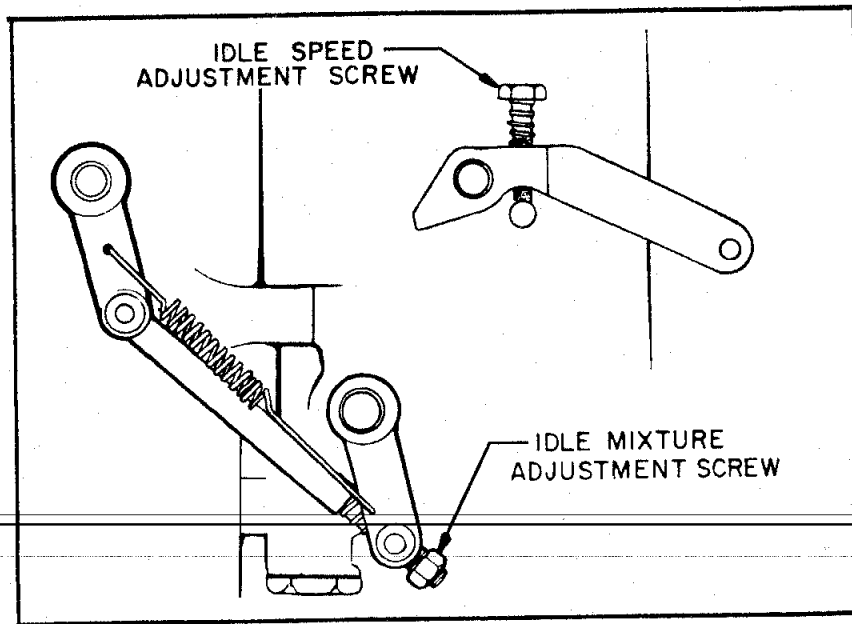

FIG. 26. IDLE ADJUSTMENT POINTS FOR IO-520-A, F, J, K & L.
k. The idle speed is controlled by a spring-loaded screw located in the air throttle lever. (See Figure 26, 27.) Set to values specified in aircraft handbook by turning in to increase and out to decrease idle speed. The idle mixture is controlled by means of an adjustable link rod. Turn the adjusting nut to the right to enrich and to the left to lean. Current fuel pumps may be adjusted for both idle and full throttle fuel pressure in accordance with Service Bulletin M72-4.